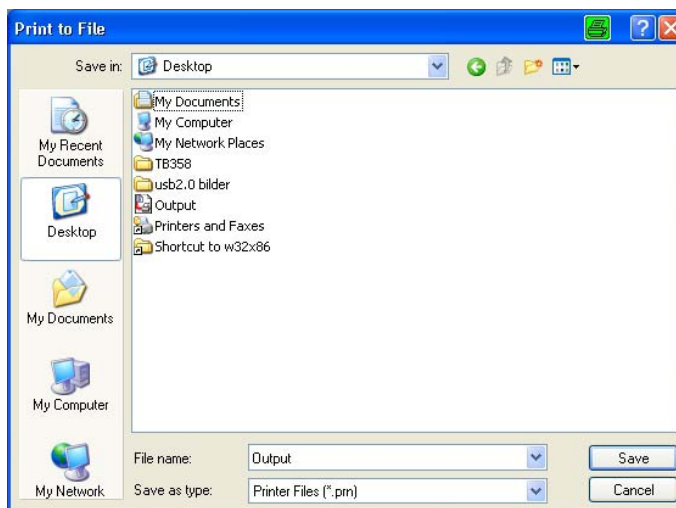

Figure 64: Print to file dialog
- Select a file name and a location to save the print file. Use the default file type “.prn” (printable file) (see Figure 64).